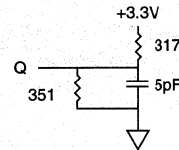

Fig. 2 OUTPUT LOAD EQUIVALENT
- Output loading is specified with C_L = 5pF as in Fig. 2. Transition is measured ±500mV from steady state voltage.
- The load used for V_{OH}, V_{OL} testing is shown in Fig. 2. AC load current is higher than the shown DC values.